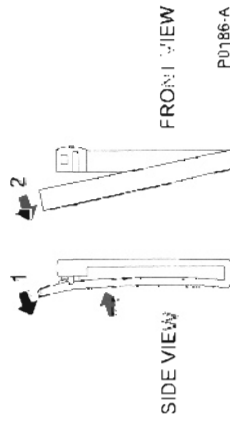

Figure 5 - Golden Hawk belt clips
- It can be placed in its Control Bag which is attached to the operator's waist via two belt clips (see Figure 5).
- d. The belt clips used on the battery pack are identical to those used on the Control Bag (see Figure 5 for details of clip operation).